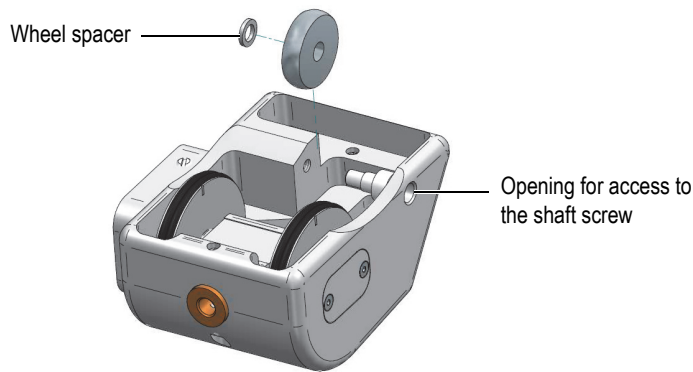

Figure 3-4 Idler wheel
- Loosen and remove the screw on the end of the idler-wheel shaft, using an Allen key (see Figure 3-4 on page 33).